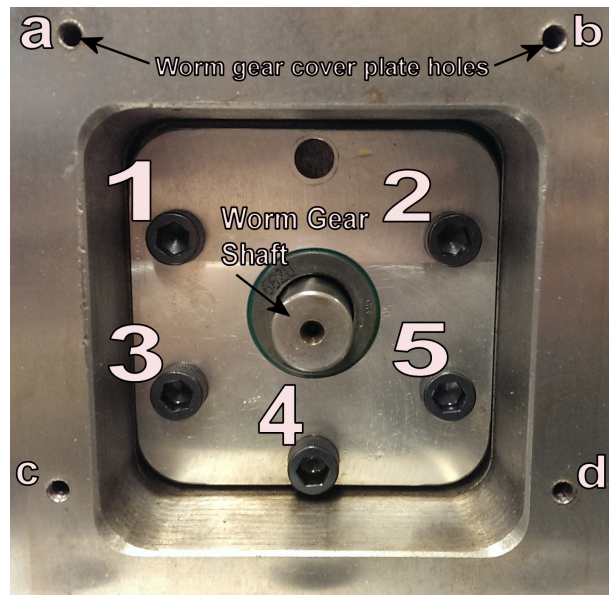

Figure 1: Holes a, b, c, & d cover the worm gear shaft. Screws 1, 2, 3, 4 & 5 hold worm gear shaft in place.
2. Remove cover to expose end of worm opposite motor by removing screws a, b, c, and d, see figure 1.